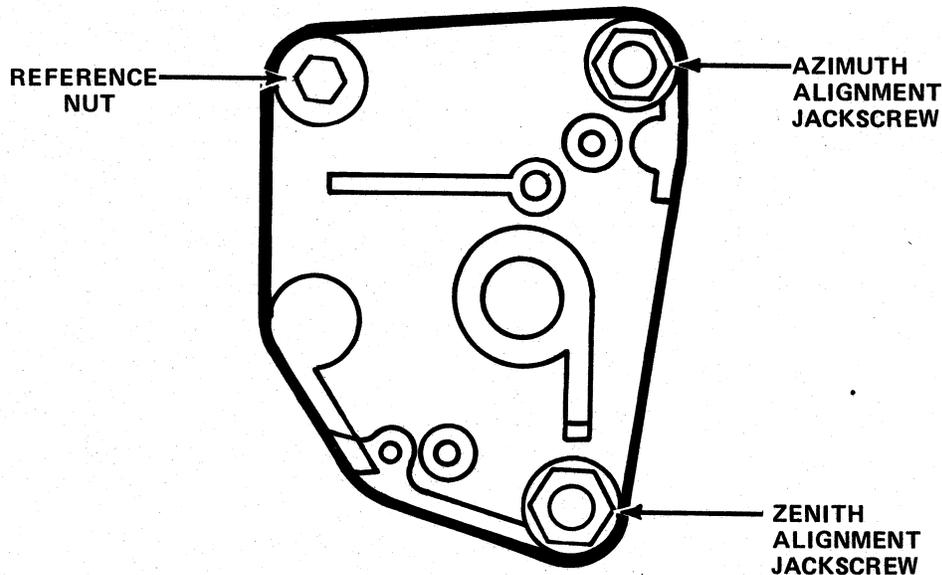

Figure 3-12. Jackscrew Locations on Head Carriage Assembly
- i. If indicator point is not between  $\pm 15$  minutes angular tolerance lines on zenith alignment tool, adjust rear jackscrew, shown in Figure 3-12, until the indicator point is as close to 0 minute as possible. To adjust jackscrew,